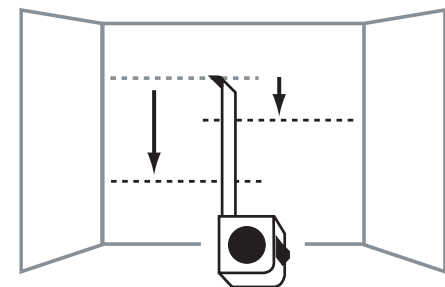

FIG. 3.2
- Using the height location measurements for the lower (A) shelves on grid, measure from the top shelf down and **mark all lower shelf locations** on the back closet wall (Fig. 3.2).